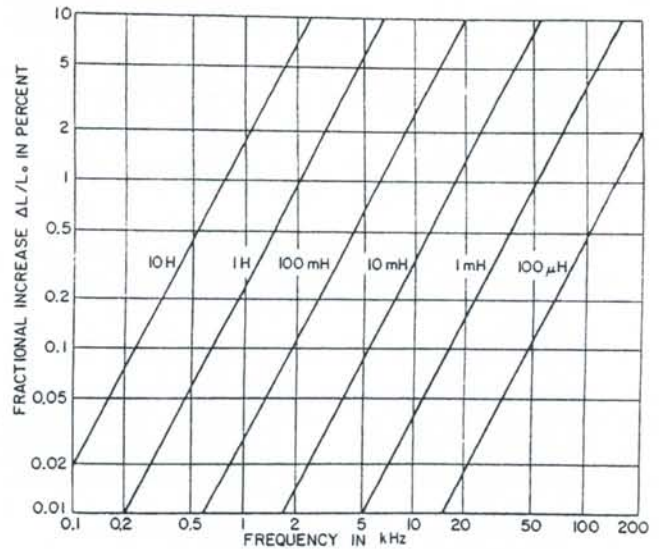

Figure 2-4. Variation of inductance with frequency, for the 1491 Decade Inductors (chassis grounded).
graph (see Figure 2-4) for any setting of the highest-value decade used, when the low (L) terminal is grounded to the cabinet.